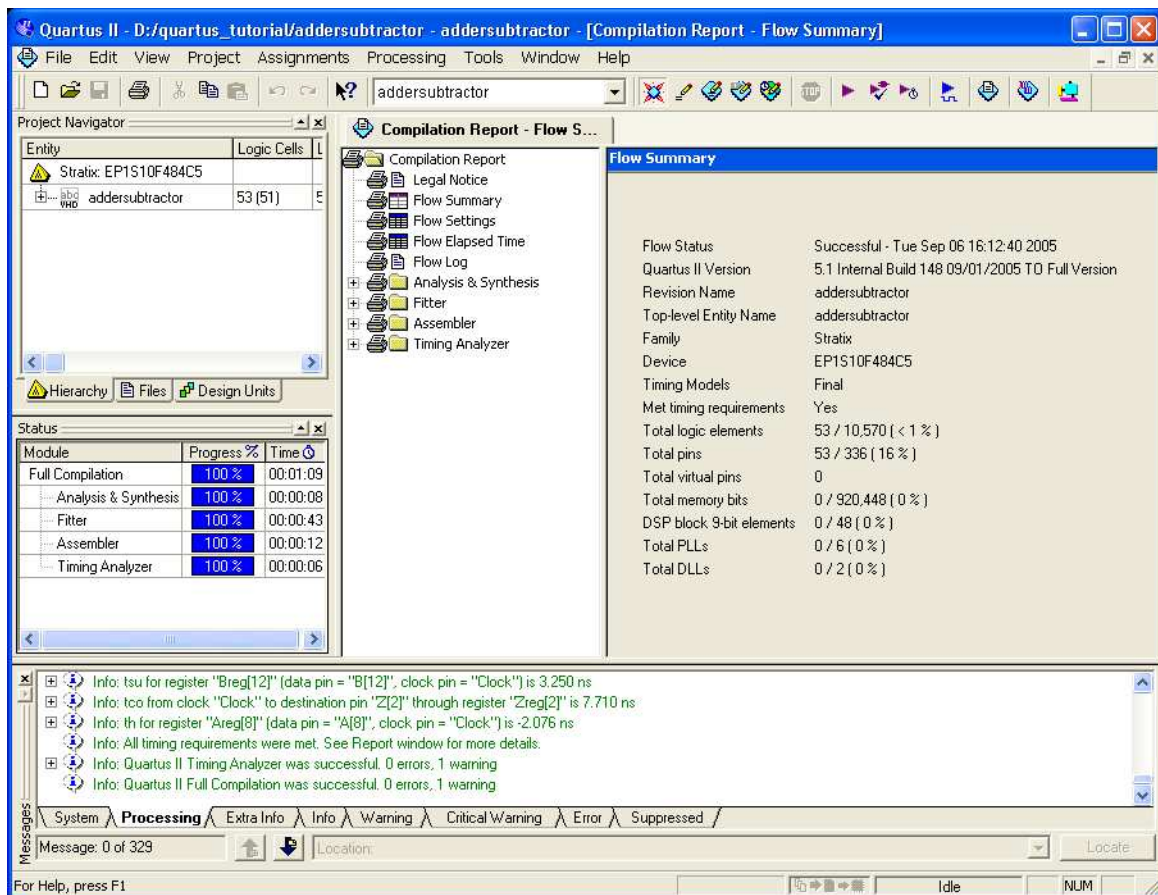

Figure 18: Display after a successful compilation.
1. Run the Compiler by selecting **Processing > Start Compilation**, or by clicking the toolbar icon . As the compilation moves through various stages, its progress is reported in the window on the left side. Successful (or unsuccessful) compilation is indicated in a pop-up box. Acknowledge it by clicking **OK**, which leads to the Quartus II display in Figure 18, in which we have expanded the Entity hierarchy in the top left corner to show all entities in the *addersubtractor* design. In the message window, at the bottom of Figure 18, various messages are displayed. In case of errors, there will be appropriate messages given.